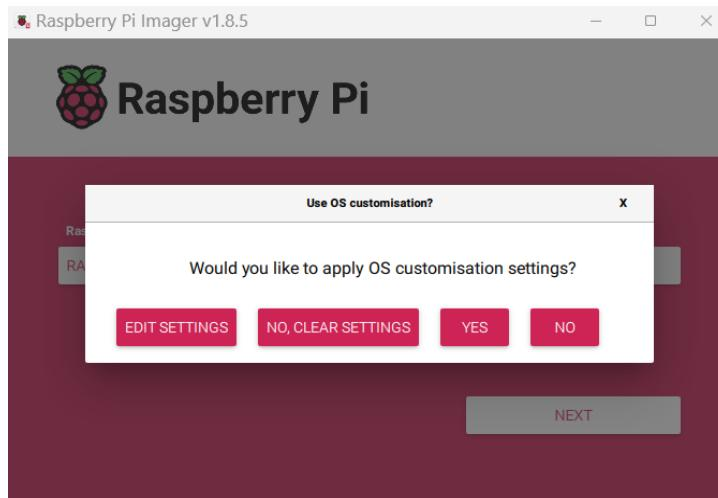

Figure 26. Select Yes for custom settings.
3. During the imaging setup, you will be asked to apply customization settings. Select Yes (or Edit settings if this is not the first time using the software). (Figure 26)